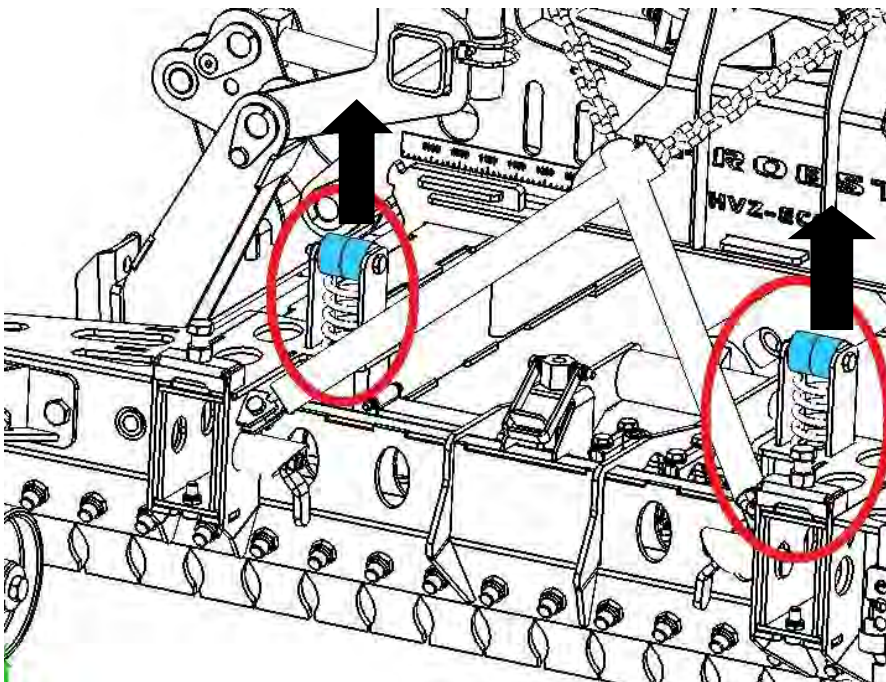

Fig. 1
- Move hydraulic control lever (of the carrier → excavator) on "position 1" and hold it in this position until the springs of the ADV (ADV = pushing-off device) are visible (see ↑↑ in Fig. 1).